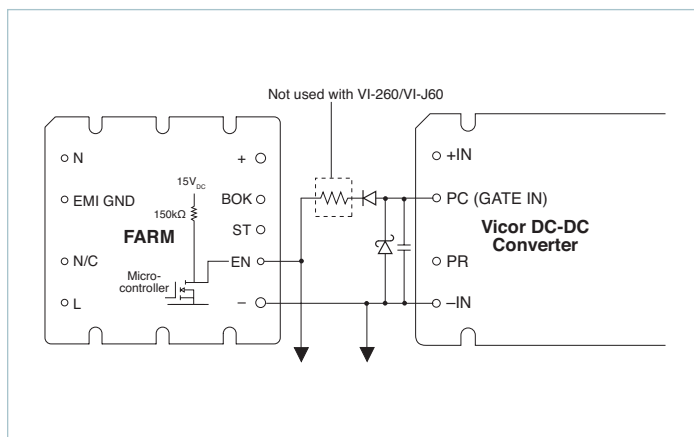

Figure 8.4 — Enable (EN) function
Enable (EN) Pin: (Figure 8.4) The Enable pin must be connected to the PC or GATE IN pin of all converter modules to disable the